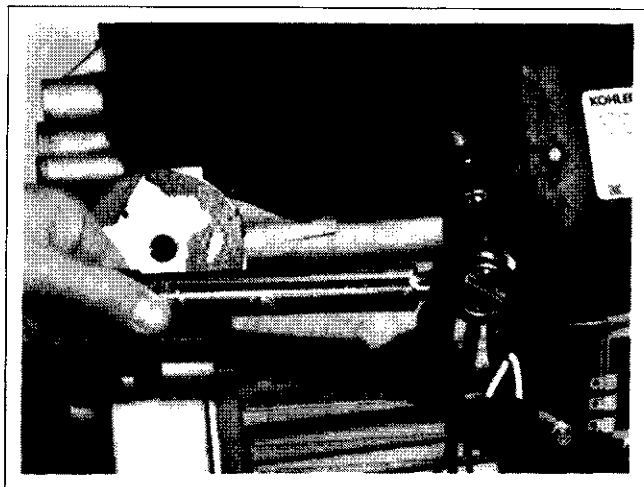

Figure 11-56. Tighten Short Screws to Torque Specified.
5. Install the outer baffles and secure using the four hex. flange screws (two long, two short) in the front mounting holes (when facing fan). Install the two short screws in the lower front mounting holes of the outer baffles. Use the short screw on the left side to mount the wire harness bracket. Torque the short screws to **4.7 N-m (35 in. lb.)**. See Figures 11-56 and 11-57.